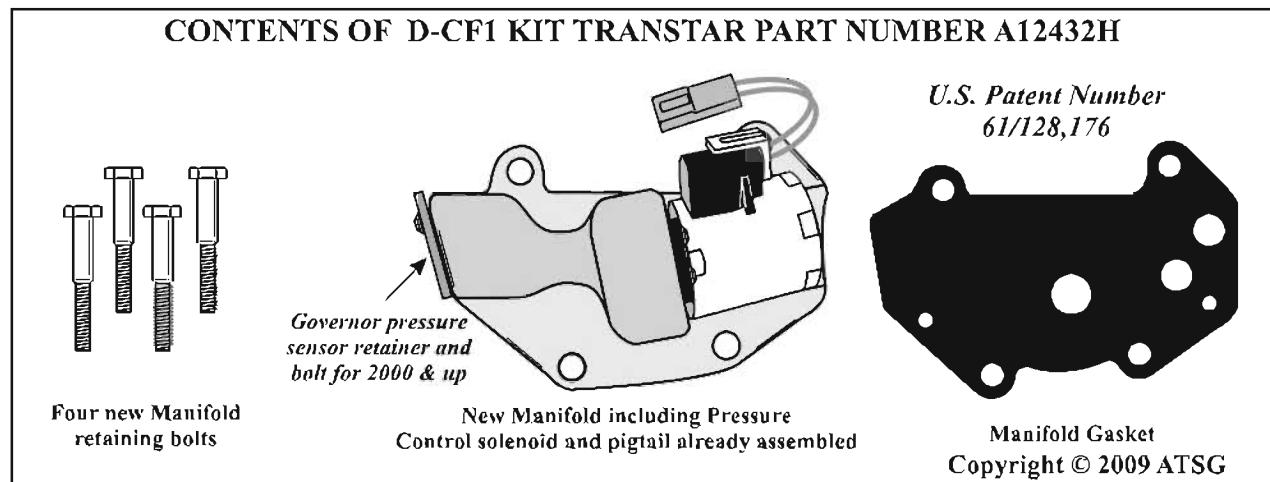

Figure 1
*Refer to figure 1 for the contents of the new Governor Solenoid and Manifold.*